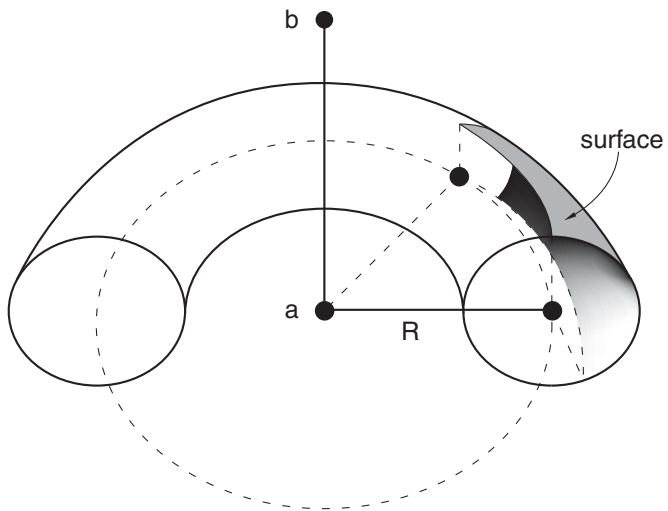

Figure 4: Three-dimensional toroidal smoothing.
3. Node number of the node at point *a* (see Figure 1 through Figure 4, depending on surface shape).
4. Node number of the node at point *b* (only for three-dimensional circumferential or toroidal; see Figure 2 or Figure 4, depending on surface shape).
5. Distance *R* (only for three-dimensional toroidal; see Figure 4).